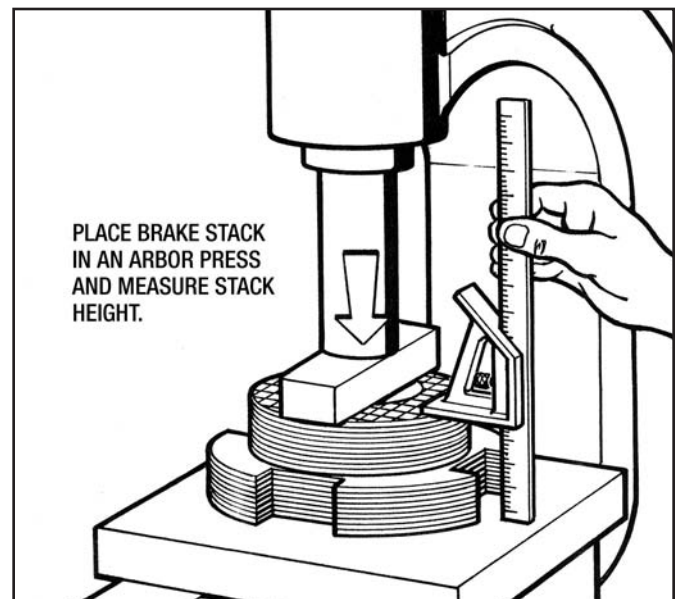

Figure 5.2 - Checking Brake Stack Wear
(See Figure 5.2 Below)
3. Take the Brake Stack off the spline and put it in an arbor press and measure the Stack Height as shown in Figure 5.2.